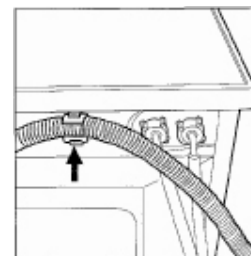

Fig. 3
- When installing the drain connection in a standpipe or under-counter configuration, the hose connection point must be between 80 to 100 cm off the ground. If the connection point is less than 80 cm from the floor, the hose may be routed through the drain hose clip as shown (Fig. 3).